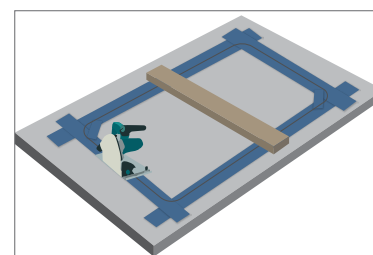

Fig. 8
- Using the track saw, complete the two short sides of the cut out. (see Fig. 8)